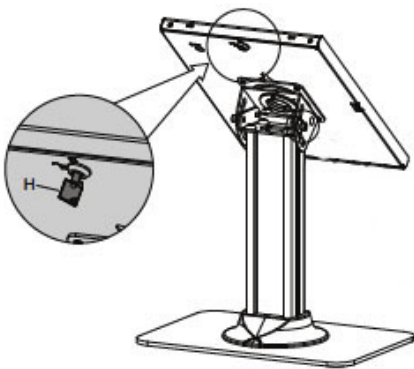

Figure 7
1. Insert the **Key (H)** into the lock, turn it counterclockwise to unlock, see **Figure 7**.